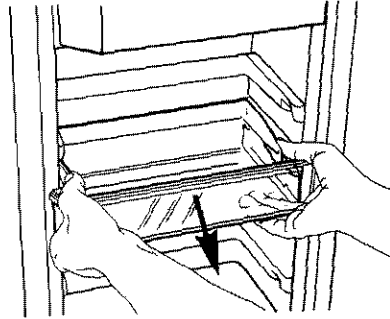

FIGURE 75
2. Push the loc-tabs toward the center with your thumbs or forefingers, whichever is easier for you. See Figure 75. While holding in the loc-tabs, pull the bucket straight out.